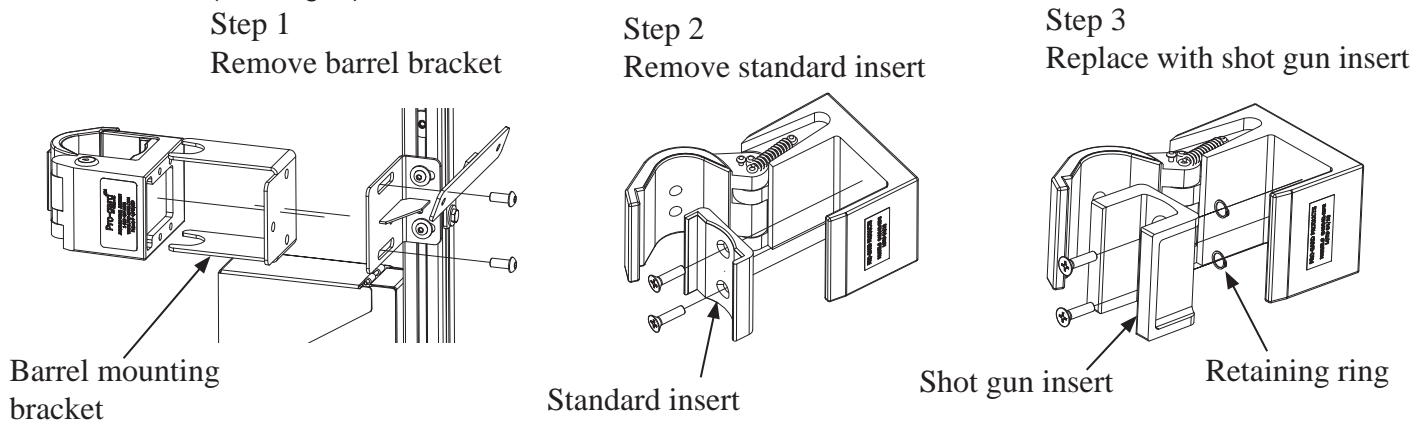

Fig. 2
C. Shot Gun Mounting - The shot gun can be mounted in two ways, by barrel mount or by installation of the shot gun chamber mount insert. To install the shot gun insert, remove the standard insert by opening the lock and unscrewing the two insert bolts with an allen wrench. Remove the retaining ring from the bolt's back side. Replace with shot gun insert (3G724) and reinstall insert bolts and retaining rings on the back side of the insert. Use the two fastener bolt's adjustment to fit the shot gun used in the lock. (See Fig. 2)